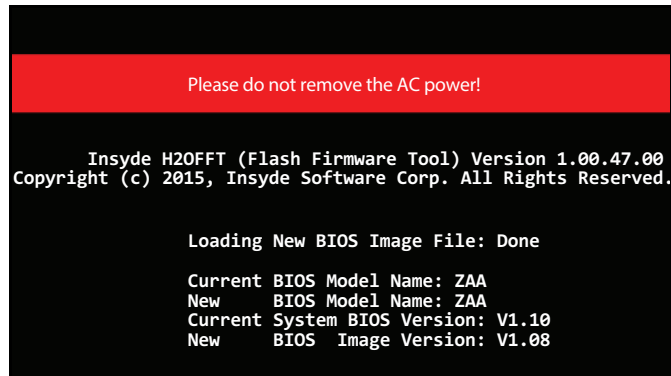

Figure 2-32. Flash BIOS Process
14. System will restart automatically and display the Flash BIOS Process as shown in Figure 2-32.